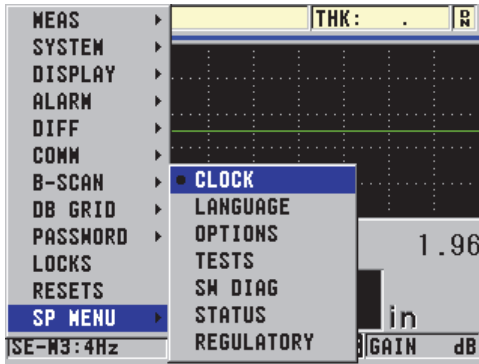

Figure 4-2 The SP MENU screen
2. In the **SP MENU** (see Figure 4-2 on page 55), select **CLOCK**.